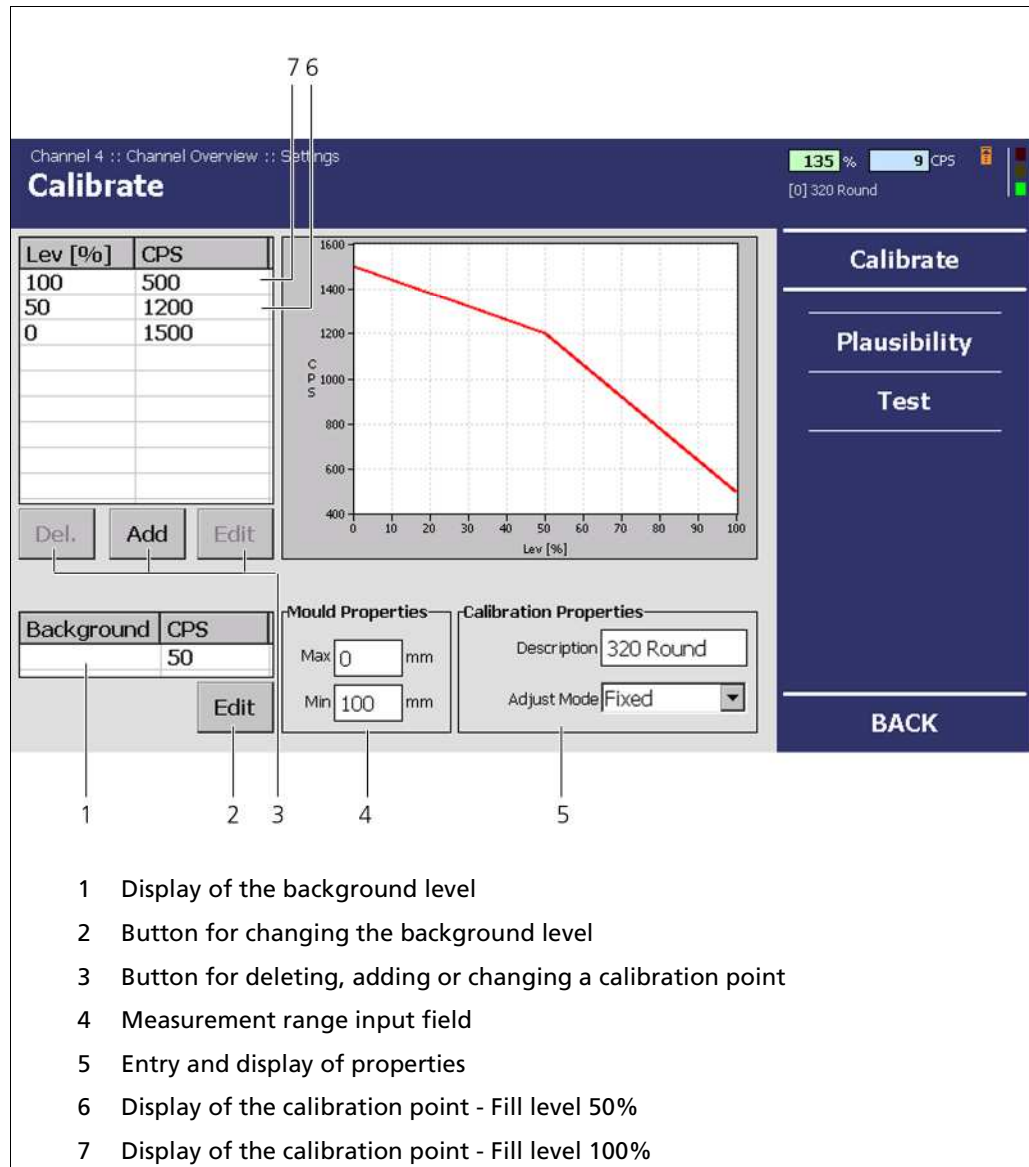

Fig. 55 "Channel Overview" Menu, Settings - Calibration
BERTHOLD TECHNOLOGIES recommends that the adjustment mode be set to **"dynamic"** (Fig. 55, Pos. 5) if only an empty adjustment is carried out before casting.
Display of the calibration points	Fig. 55, Pos. 6 and 7
Curve description	Display of calibration curve description (Fig. 55, Pos. 4)
Adjustment mode	The adjustment mode adjusts the calibration to the changed environmental conditions (e.g. change of the mould or the source). Two different modes are available for calculating the new calibration curve (Fig. 55, Pos. 5):
BERTHOLD TECHNOLOGIES recommends that the calibration mode be set to **"dynamic"** (Fig. 55, Pos. 5) if only an empty calibration is carried out before casting.
2. Mark the pair of values to be changed (calibration point) by clicking on the corresponding field (Fig. 55, Pos. 7).
3. Click on **<Change>** (Fig. 55, Pos. 2) or on **<New>** (Fig. 55, Pos. 3) if an additional point should be added.
Ensure that the calibration curve is strictly monotonically increasing. If not, correct the points or delete them by clicking on the <Del> button (Fig. 55, Pos. 3).